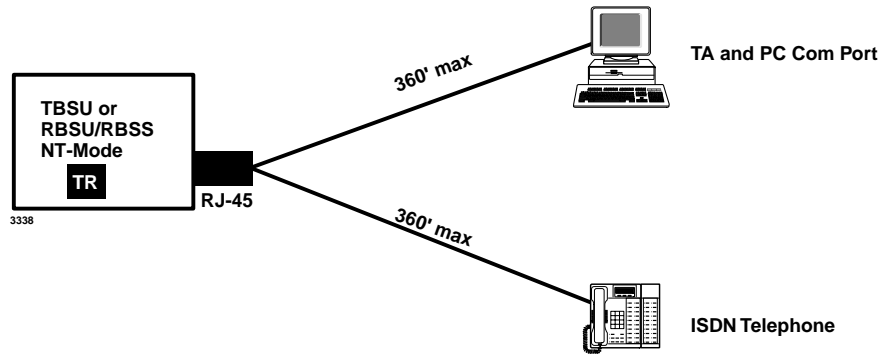

Figure 14-25 Simplified Short-branched Passive Bus
To control electrical characteristics, a 100-ohm terminating resistor (TR) is required at both ends of the passive bus. One resistor should be across the Tx pair and one across the Rx pair at either end of the passive bus. Branch-type passive bus configurations, shown in Figures 14-25~14-28, may only require a TR on the TBSU or RBSU/RBSS NT circuit side and not on the TE or TA device side of the bus.
The placement of S-type TE and TA devices on the BRI S-passive bus is critical for good TBSU and RBSU/RBSS BRI circuit performance. Figures 14-25~14-28 show four passive bus architectures that are known to work. In all installations, follow the guidelines of any of these passive-bus models using the wire, cables, and jacks described in the previous paragraphs.